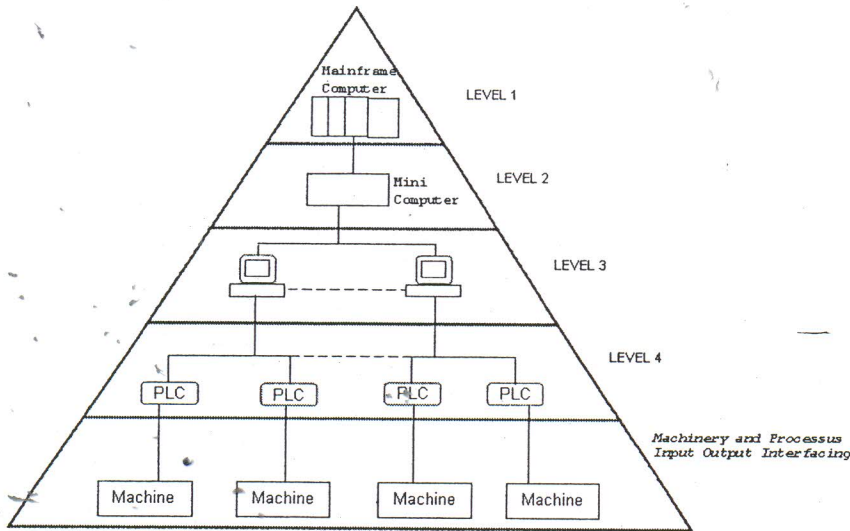

Figure 2: Hierarchy in an automated factory
- (c) A CIM comprise of LEVEL 1, 2, 3, and 4 as shown in **Figure 2**. Identify each levels of hierarchy in an automated factory